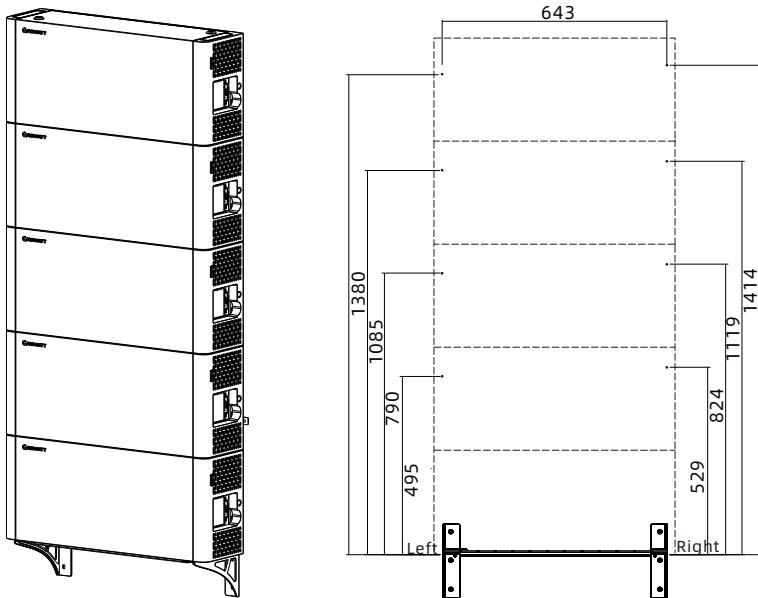

Figure 4.11: Mounting Hole Dimensions
**Step 2:** Fix the wall bracket on the wall. Determine the hole positions for mounting the remaining batteries according to the dimensions shown in Figure 4.11 , mark the hole positions using a marker. Drill holes using the alloy drills with a diameter of 8mm (the hole depth: 45mm to 50mm ). Install the M6 expansion bolts.
- ① ② Fix the wall bracket to the wall.
- ④ Install the anti-tipping plates on both sides and tighten the two screws.
- ③ Install the battery module on the wall bracket.
- ⑤ Mark the hole position to fix the battery module.